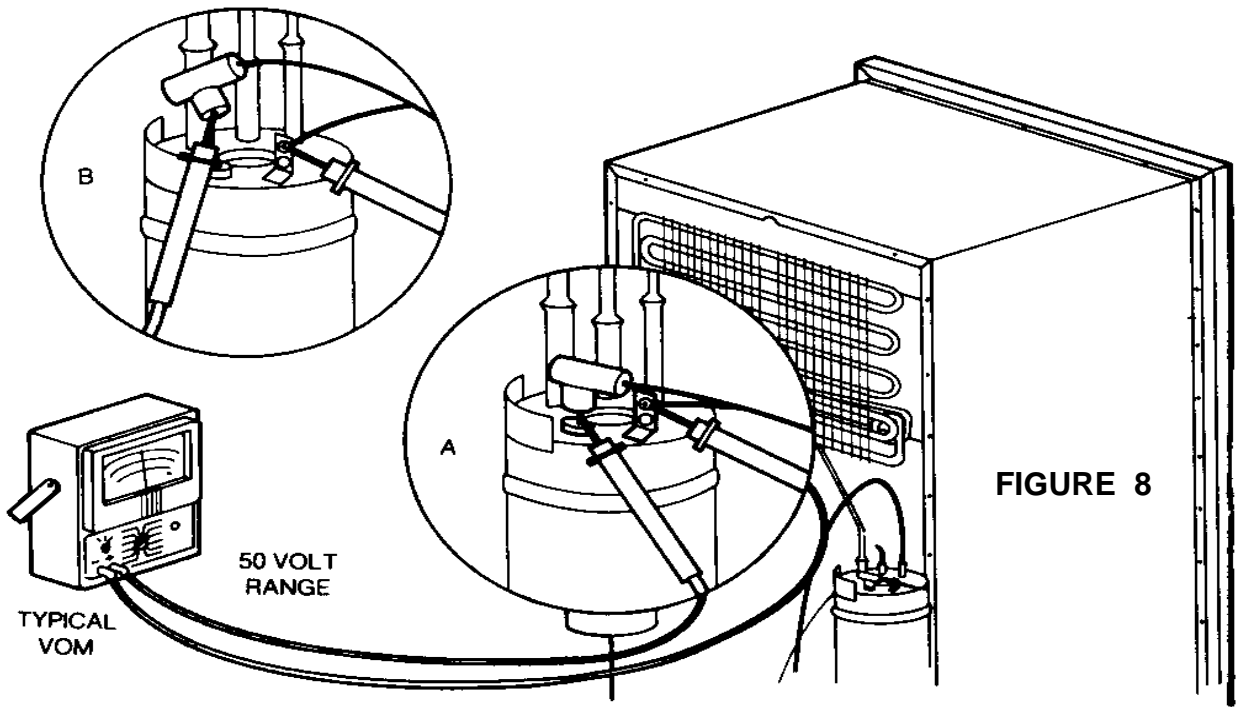

FIGURE 8
- D. If voltage is present but reads approximately half, refer to Figure 8.